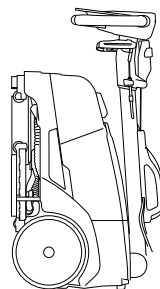

Fig.4
- Pull the machine up into the vertical position (fig. 4).